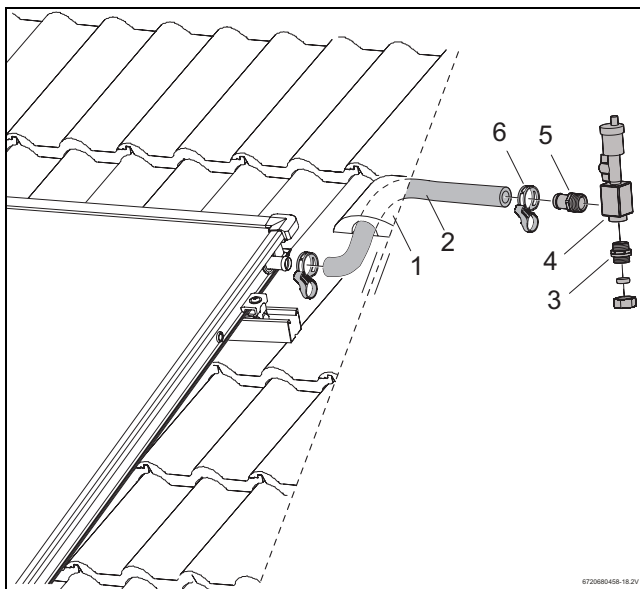

Fig. 51 Assemble the solar hose to the flow connection
- ▶ Fix the long solar hose (1000 mm, Fig. 51, [2]) to the flow connection of the collector array and secure with hose clip.
- ▶ Route the hose together with the probe cable along the ventilated tile (Fig. 51, [1]) and along the rooftop insulation.
- ▶ Tighten the hose end reducer R $\frac{3}{4}$ with the O-ring and the (Fig. 51, [5]) and the barrel nipple with the O-ring (Fig. 51, [3]) in the air chamber (Fig. 51, [4]).
- ▶ Push the hose end as far as it can go into the solar hose and fix with hose clip (Fig. 51, [6]).
- ▶ Connect the collector pipes to the locking ring threaded connection (Fig. 51, [3]).